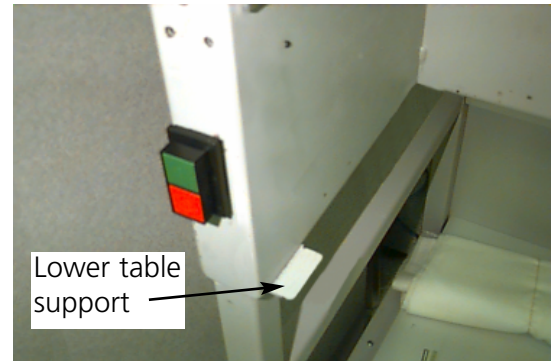

Figure 2-9
1. Lower the sewing table by lifting the front of the table and pulling it towards you. Place the tabletop on the lower table supports (Figure 2-9) and push the tabletop towards the rear of the machine. The tabletop will snap into place.